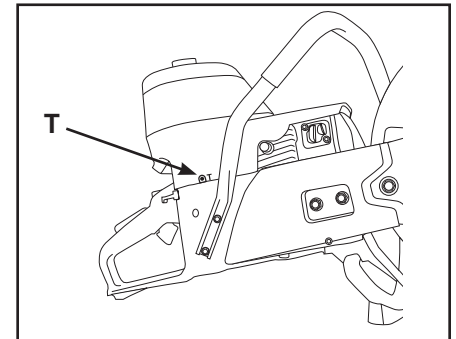

Figure 6
**T – Idle Screw** is adjusted so that the engine idles smoothly but the clutch does not engage (Figure 6).